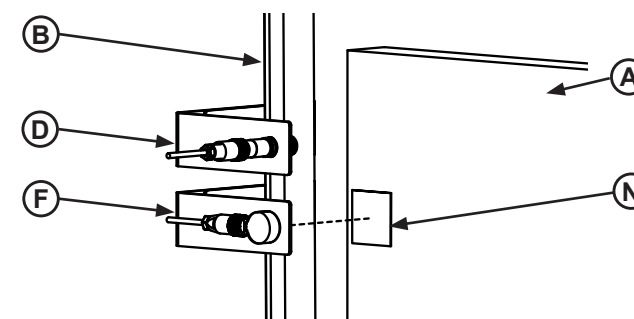

Figure 2
- Make sure there is a flat mounting surface for the reflective tape (N), on the door (A) in front of the sensor. See **Figure 2**.
5. With the bracket (H) mounted, insert the sensor (J) into the bracket with included hardware, as shown in **Figure 2**.
6. Mount the included reflective tape (N) on the door in front of the door closed sensor.
4. Position the bracket so that it is plumb and level and approximately 1" below the door open sensor (if installed.) See **Figure 2**.